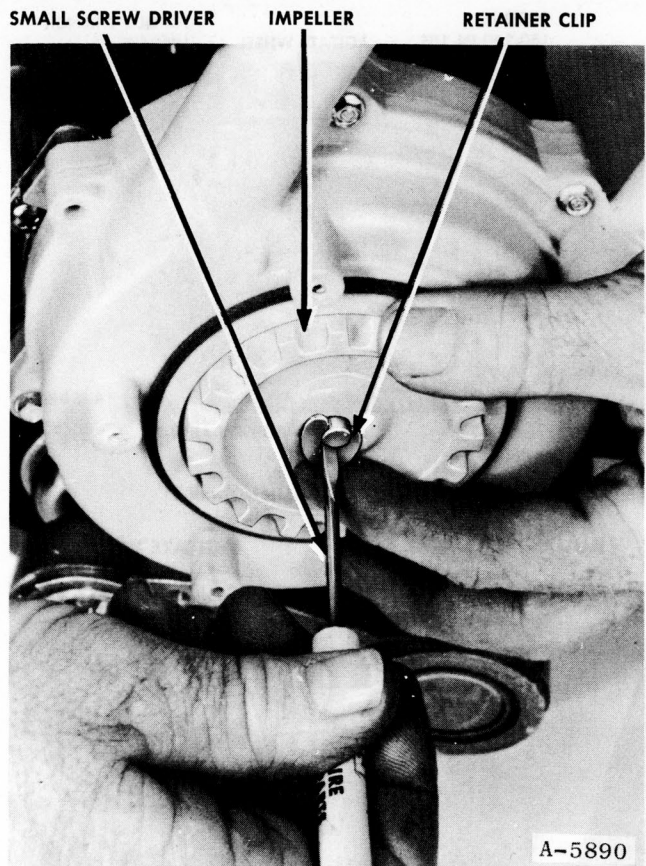
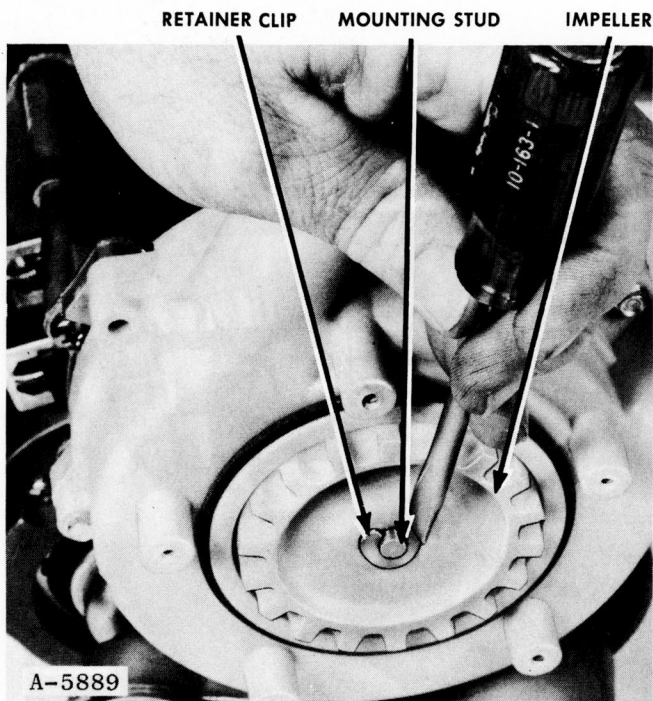

Figure 109
Figure 108
3. Remove the recirculate pump impeller from the mounting stud. See Figures 108 and 109.
- Note:** Use a tool with a good square end to start the retainer clip from the stud. Figure 108. Final removal can be made with a small screwdriver to avoid loss of the retainer. Figure 109.